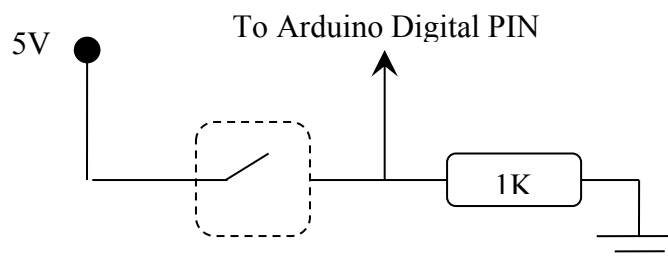
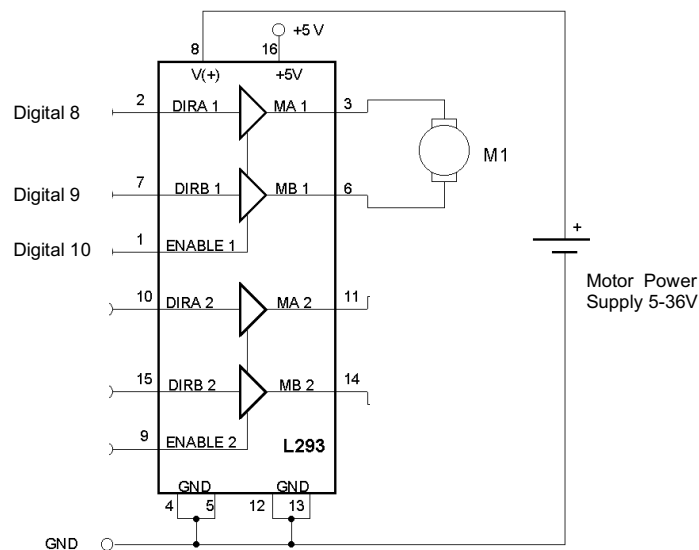

Figure 5. Interfacing a button / switch to Arduino to provide digital input.
Figure 6. L293D interfacing to Arduino.
**2.** At this stage you will handle two interrupts on Arduino. Now, connect two push buttons to digital input pins 2 & 3 as illustrated in figure 5.
**4.** At this step you are to build your driving circuitry on the breadboard using L293D and you will interface it to Arduino as shown in figure 5. Instead of a real motor, for the time being interface you LED motor to L293D. You will be allowed to use a real DC motor only after we inspect that you can successfully control the LED motor (shown as M1 in Figure 6).
Pay attention to the power supplies (Figure 6). You can use the +5V from Arduino for pin 16 on L293D, whereas Motor Power Supply on pin 8 should be externally provided to the circuitry where the ground of the external supply is connected to the ground of the remaining system when you use an electric motor. For the sake of LED motor you can use 5V from Arduino but once you use a real motor attach a proper power supply to pin 8.
Once you implement this, show us that it works on the LED motors. Evidently, you have to connect two LED motors to your Arduino. It is a similar process to the one shown in Figure 6.
IMPORTANT NOTE: At this stage before connecting the real motor to the circuit, make sure that Pin 8 of L293D is connected to an external power supply as mentioned in figure 6.